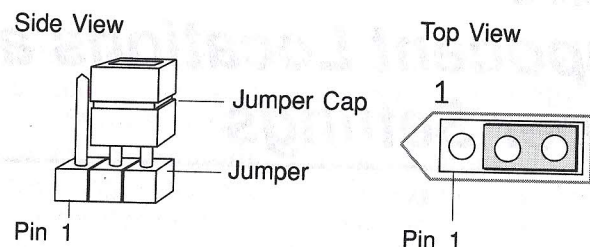

Figure C-1. Typical Jumper
Figure C-1 shows the side and top views of a three-pin jumper in which pins two and three are closed.
- A box with one pointed end printed around the jumper, with the pointed end being pin 1 (see Figure C-1, top view)